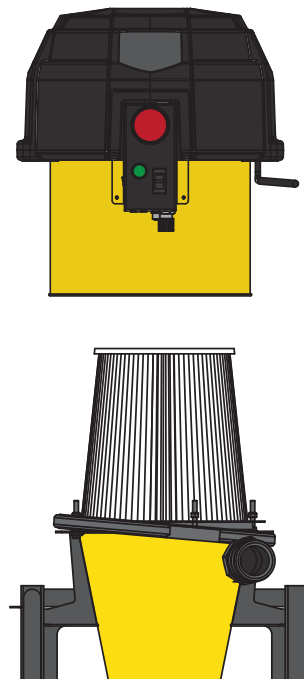

FIG. 9
Lower the Motor Assembly (A) over the Filter (E) and down onto the Cyclone's (G) upper flange. Align the Motor Assembly so its perimeter is flush with the Cyclone's (G) flange below it [FIG. 9].